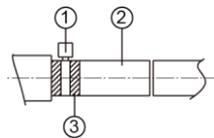

Fig 4.3.2
- (1) Insert the drain hose into the drain hole and tighten it with tapes, as shown in Fig 4.3.2.
(2) Tighten the pipe clamp, with the distance between screw nut and hose smaller than 4mm.
- ① metal clamp(accessory)
- ② drain hose(accessory)